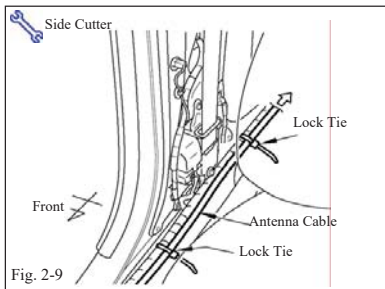

Fig. 2-9
(1) Route cable next to factory harness and install 2 lock ties as shown. (Fig. 2-9)